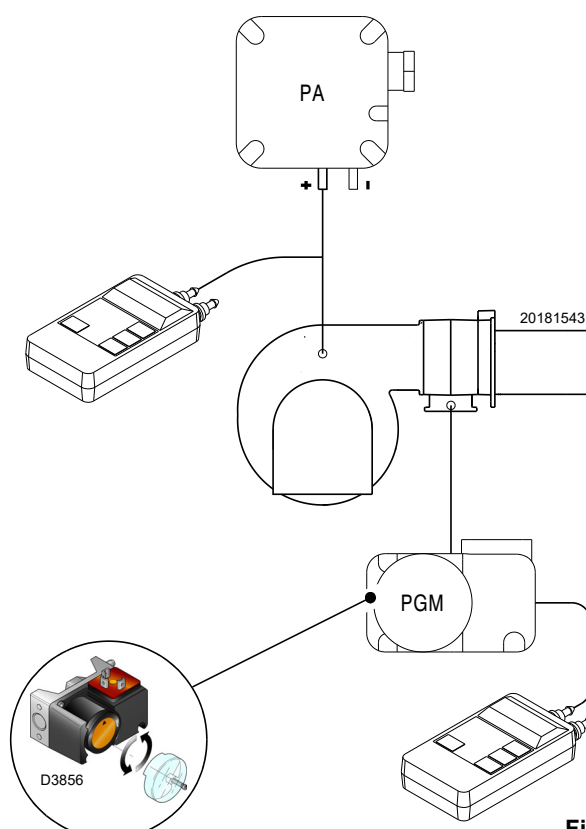

Fig. 32
- Adjust the maximum gas pressure switch (Fig. 32 at page 31) to the end of the scale.
Adjust the maximum gas pressure switch (Fig. 32) after making all other burner adjustments with the maximum gas pressure switch set to the end of the scale.